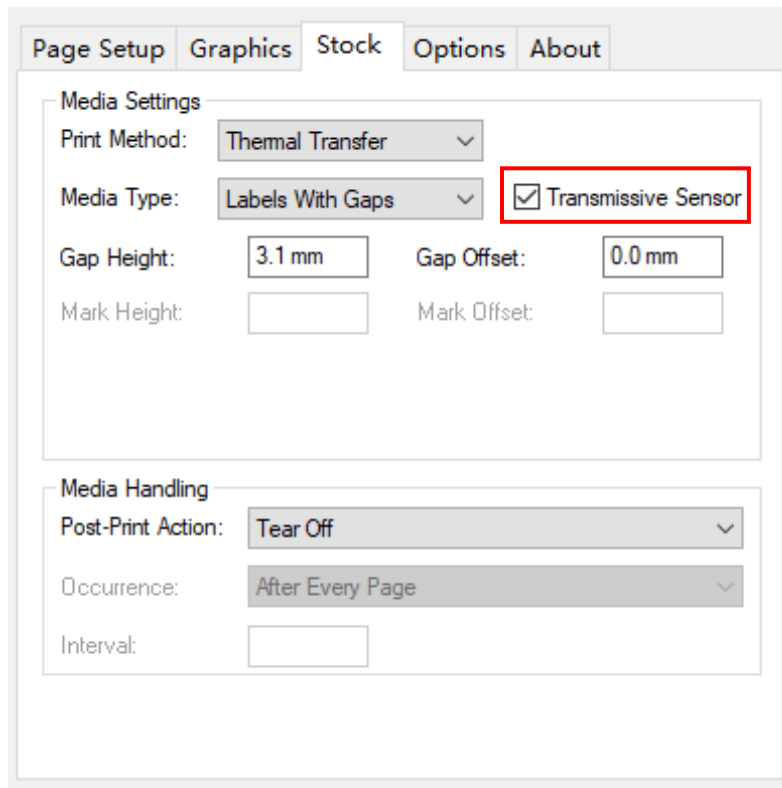

Figure 3-7 Stock Interface
- Open the “Advanced setup” from the printer’s driver on your PC, select “Stock” tag, and then select the correct media type from the drop-list and uncheck the box of “Transmissive Sensor”, see Figure 3-7.